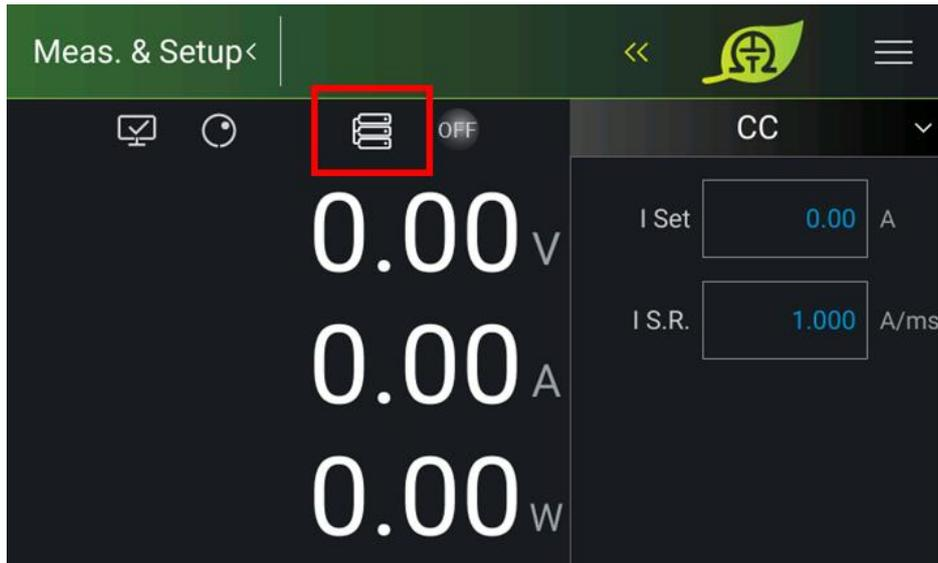
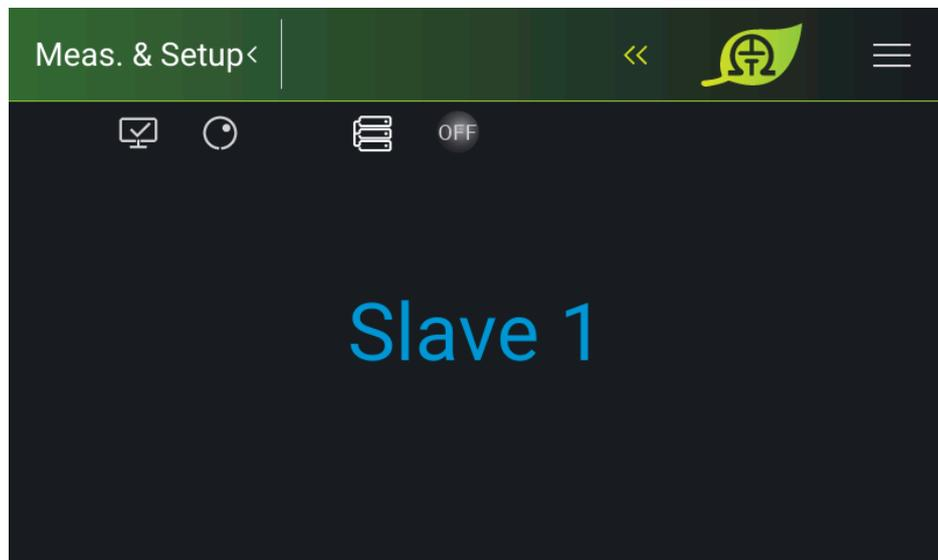

Figure 3-43
Figure 3-44
1. When the parallel communication interface is installed, follow the steps described in the previous section to enter the Parallel page as Figure 3-43 shows.
3. When paralleling two units set Master+ as shown in Figure 3-43.
4. After the above settings are made, M/S Control should be enabled to perform parallel connection control. When the connection is successful, the Master device displays an icon boxed in red as Figure 3-43 shows while the Slave device displays as Figure 3-44 shows.